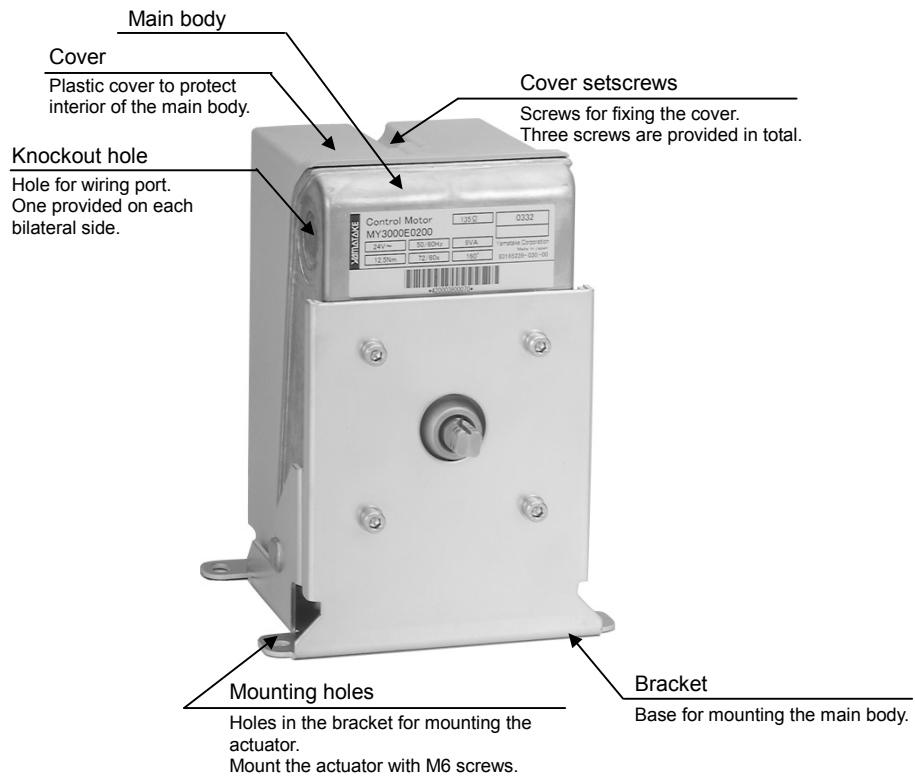

Figure 2. Parts identification
- 1) Never apply a voltage higher than 5 V to the terminals ④, ⑤ and ⑥.
- 2) To perform wiring, a knockout hole for wiring port on the control motor must be cut out. A  $\phi 22$  mm knockout hole is provided on each bilateral side of the terminal block. Select the knockout hole on the appropriate side, based on the mounting directions for the conduit pipe or connector, then gently knock the hole with a screwdriver. (See Fig. 2.)
- 3) For wiring, detach the cover by removing the three cover setscrews. (See Fig. 2.)
- 5) If the control motor is installed outdoors or in very humid environments, use the waterproof connector or the like.  $\phi 22$  mm knockout holes are on bilateral sides (one for each). Select the appropriate one. (See Fig. 2.)
- 6) After wiring, replace the cover and fix with the cover setscrews. (See Fig. 2.)